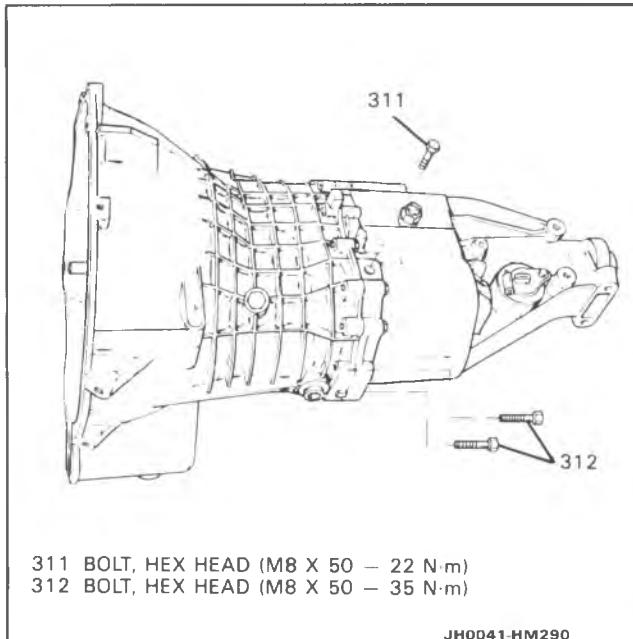

Figure 5 Removing Bolts for Special Tools
1. Idler shaft support bolt (311) and bottom two bolts (312) (Figure 5).